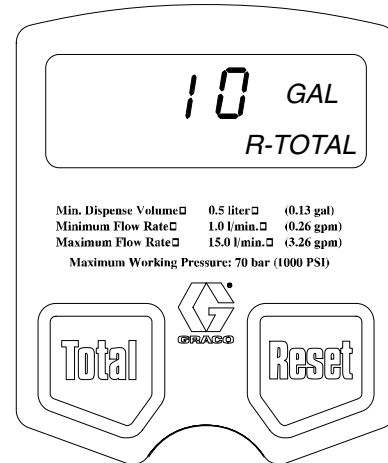

**Fig. 10**
*The non-resettable total amount is shown on the display in the current units, as shown in Fig. 10.*